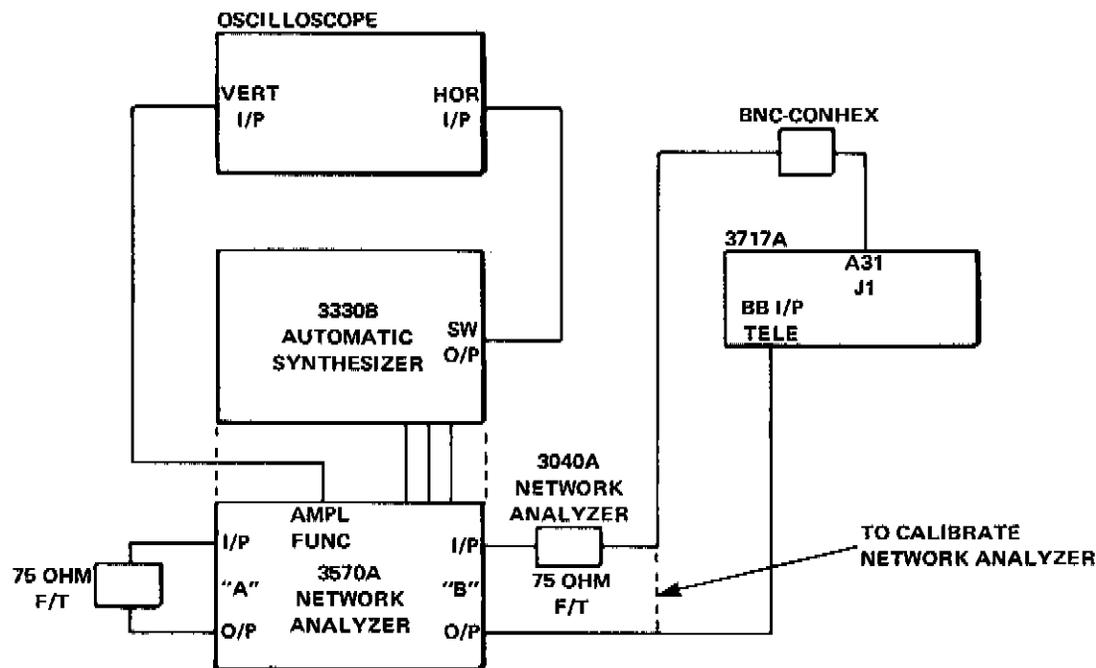

Figure 5-20 CCIR Emphasis Setup
1. Connect the equipment as shown in Figure 5-20. Set the controls as follows: